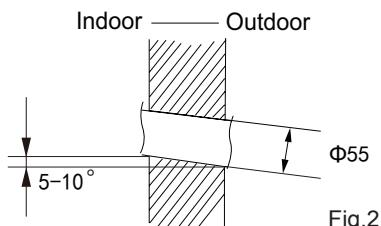

Fig.2
(2) Open a piping hole with the diameter of Φ55mm on the selected outlet pipe position.In order to drain smoothly, slant the piping hole on the wall slightly downward to the outdoor side with the gradient of 5-10°.(As show in Fig.2)